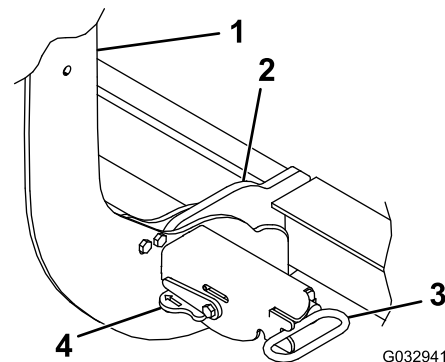

Figure 20
3. Turn the levers on the couplers to the ON position (Figure 20).
- Ensure that both coupler spring pins have fully engaged the coupler (Figure 20).